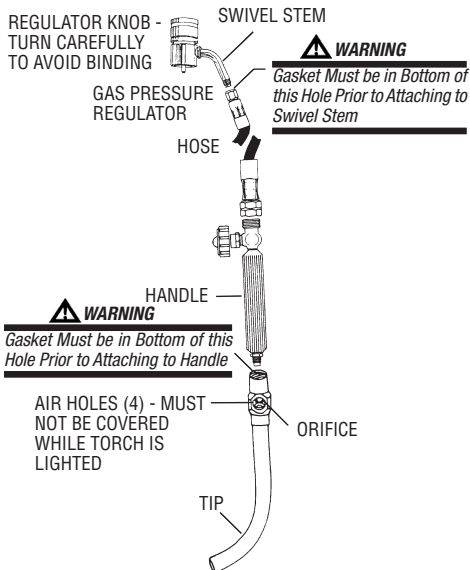

Figure 2: Air/Fuel Torch Snake Assembly
9. If you have an air/fuel torch snake or kit, check inside the hose connection to assure the small gasket is in place prior to attaching to the swivel stem (Figure 2).